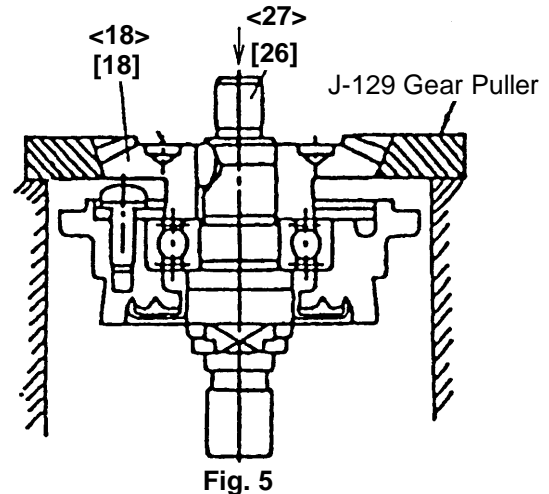

Fig. 5
- (1) Loosen the M7 Special Nut [5] for G 10SG (M6 Special Nut <5> for G 12SG) on the Armature [10] <10>, and remove the Pinion [6] <6>.
- (2) Loosen the four M4 x 12 Seal Lock Screws [24] <24> which fix the Packing Gland [23] <23>, and remove the Gear Cover Ass'y [4] <4>.
- (3) As illustrated in Fig. 5, support the outer circumference of the Gear [18] <18> with a J-129 Gear Puller (Special Repair Tool, Code No. 970905), and push down on the upper portion of the Spindle [26] <27> with a hand press to separate the Gear [18] <18> from the Spindle [26] <27>.